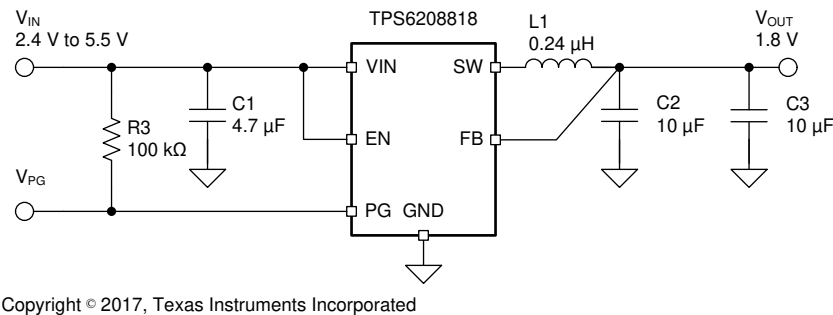

図 8-2. Typical Application of Fixed Output
(1) See the Third-party Products disclaimer.
**表 8-3. List of Components of 図 8-2 , Smallest Solution**